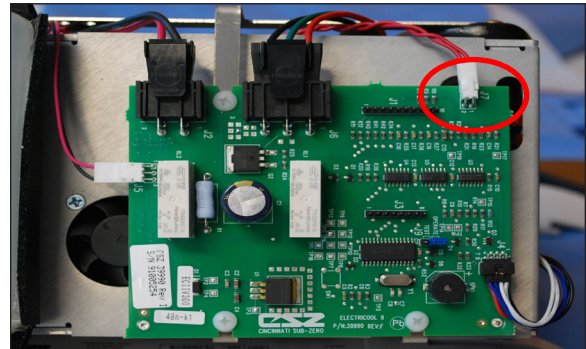

Figure 46 - Step 3 Disconnect J7
3. Disconnect the float switch cable from J7 on the control board (Figure 46).